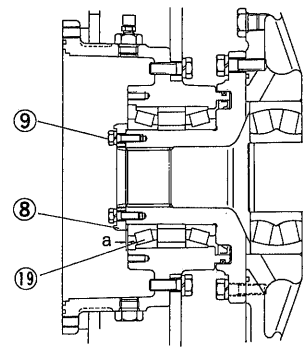

Fig. 98
- (6) Install cover (8), semi-tighten cover securing bolts (9) and then take off cover (8). Measure clearance (a) between cover (8) and inner race of bearing (19). Place proper shims to provide an interference of 0.1 mm between cover and inner race of bearing. Torque bolts to 12 kg-m. (Fig. 98)